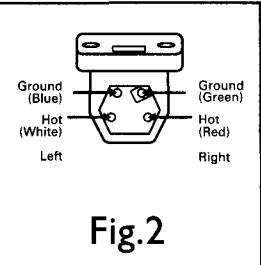

Fig. 2
(2) Connections. The contact pins are colour coded according to the International Standard Colour Code. Connect the four pickup leads to the corresponding pins on the cartridge (see Fig. 2).